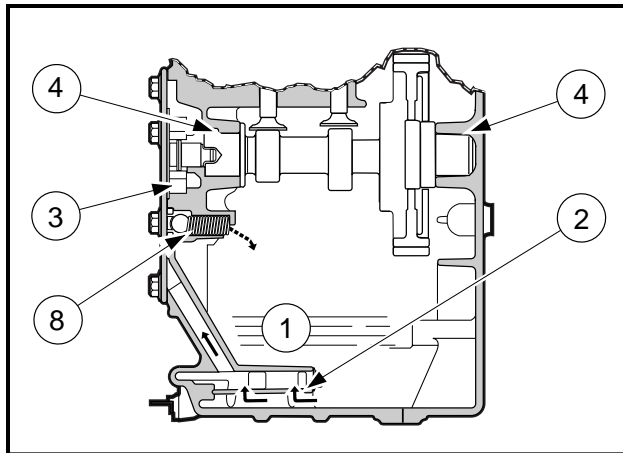
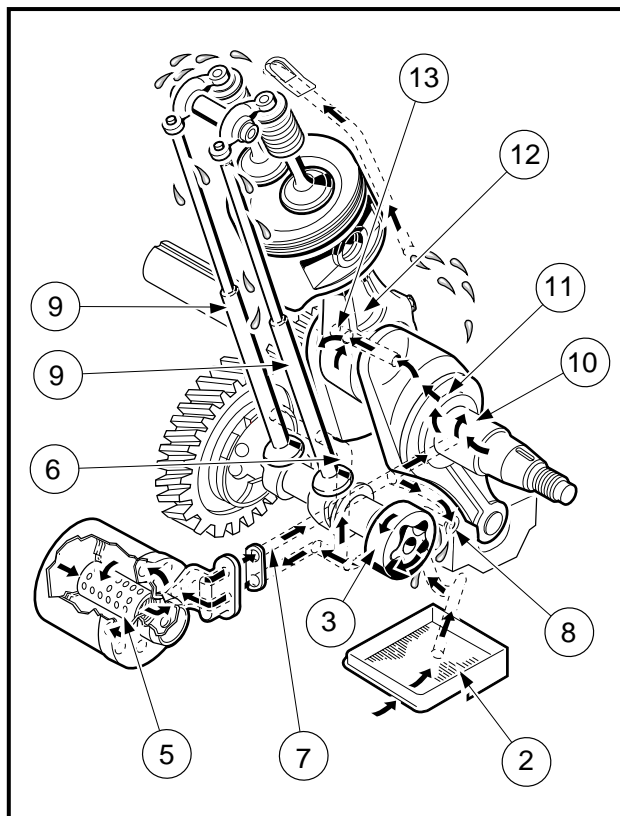

Figure 13-1 Cutaway View of Crankcase
Figure 13-2 Lubrication System
The engine is equipped with a pressurized lubrication system which consists of these components (Figure 13-1, Page 13-6) and (Figure 13-2, Page 13-6):
- Inlet filter screen (2)
- Trochoid pump (3)
- Cartridge filter (5)
- Pressure relief valve (8)
The pump (3) draws oil from the sump (1) and forces it under pressure into the crankcase passages as shown (**Figure 13-1, Page 13-6 and Figure 13-2, Page 13-6**). Oil can build up excess pressure in a lubrication system. To prevent build-up of excess oil pressure which could possibly force oil past the seals and damage the engine, the pump is fitted with a pressure relief valve (8) (**Figure 13-1, Page 13-6**) that is made of a ball and a spring. When the pressure increases beyond the pressure of the spring, the ball is forced off its seat against the spring pressure and excess oil is routed back into the sump (crankcase), thus relieving the pressure. When the pressure drops below the preset limit, the spring holds the ball against its seat to keep the oil from draining back into the sump (crankcase). Excess oil pressure could otherwise force the oil past seals and cause engine damage.